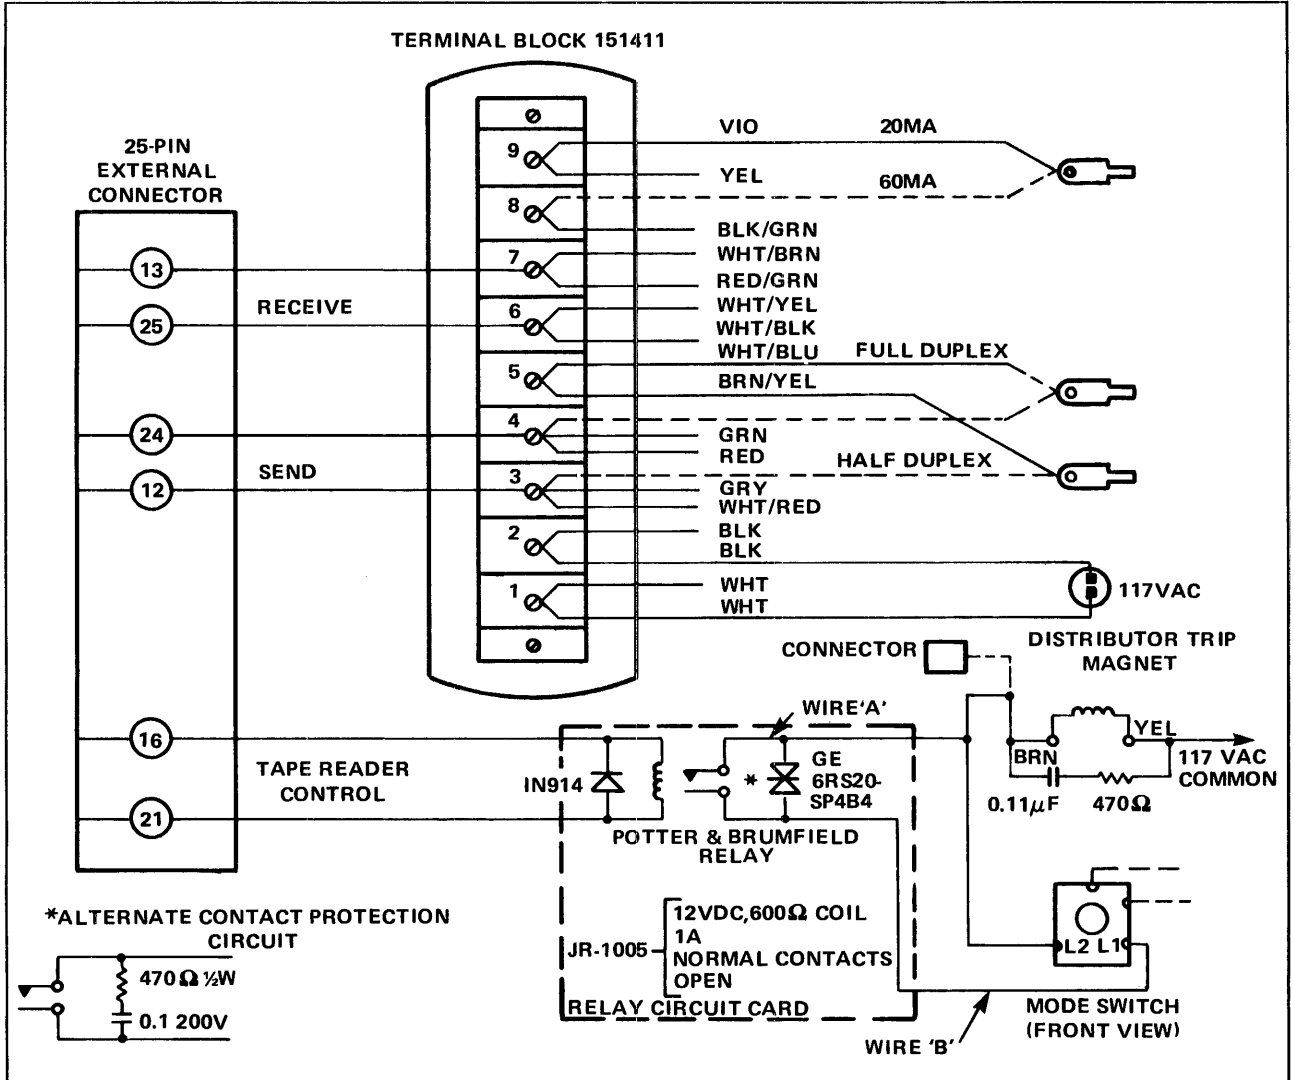
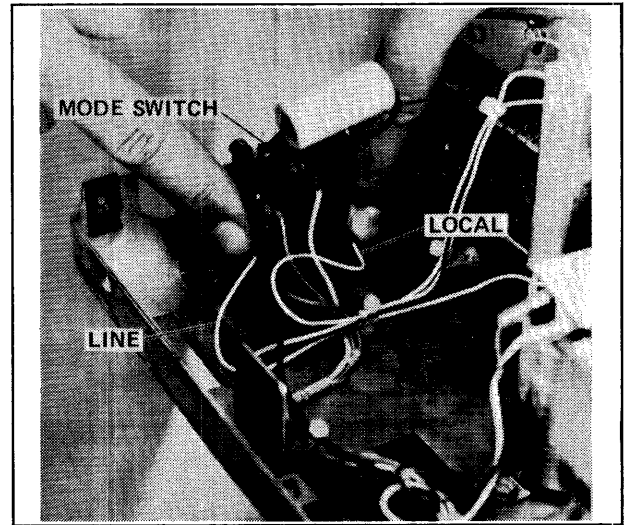

Figure E-4. Teletypewriter Modifications
Figure E-6. Mode Switch
A circuit diagram of the relay circuit card is included in figure E-4; this diagram also includes the part numbers of the relay, diode, and thyrector. (Note that a 470-ohm resistor and a 0.1 μ F capacitor may be
- a. Refer to figure E-4 and connect a wire (Wire 'A') from relay circuit card to terminal L2 on mode switch. (See figure E-6.)
- c. Refer to figure E-4 and connect a wire (Wire 'B') from relay circuit board to terminal L1 on mode switch.
Connect a two-wire receive loop, a two-wire send loop, and a two-wire tape reader control loop to the external device as shown in figure E-4. The external connector pin numbers shown in figure E-4 are for interface with an RS232C device.